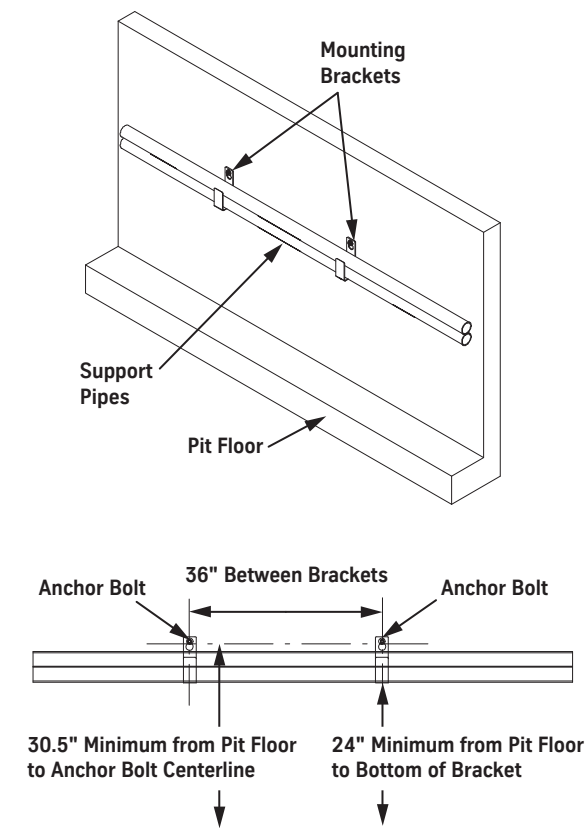

Figure 74 - Support Pipe Mounting Bracket Kit
5. If the clearances are satisfactory, locate and install the provided anchor bolts. See Figure 74 for dimensions.